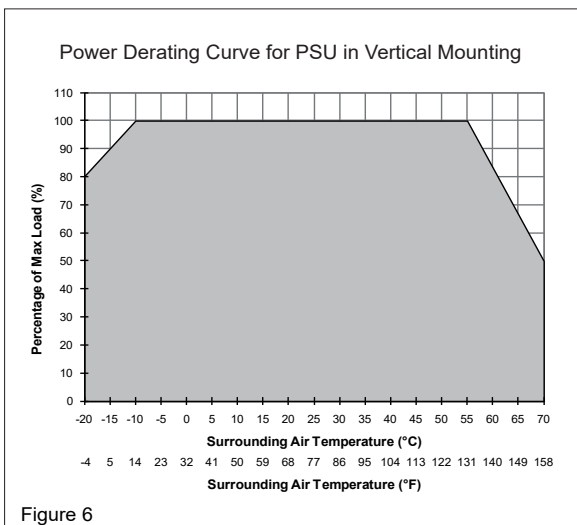

Figure 6
5.4. Thermal behavior (Fig. 6)
| Derating | Refer to Fig. 6 -10°C to -20°C (2%/°C), > 55°C (3.33%/°C) in vertical orientation |